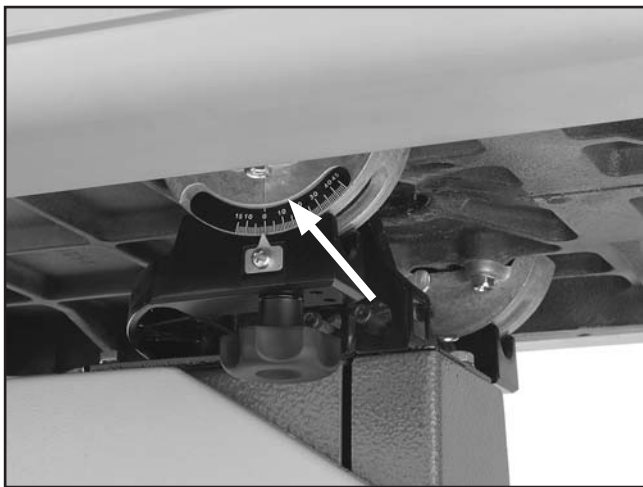

Figure 25. Table tilt scale.
2. Loosen the screw on the pointer (**Figure 25**), but do not remove it.